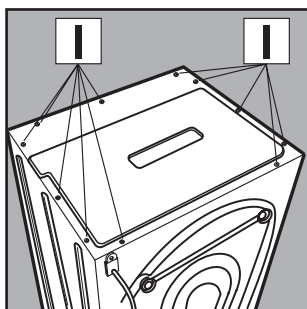

Fig. 13
2. Remove the cover by unscrewing screws **I** [fig 13].